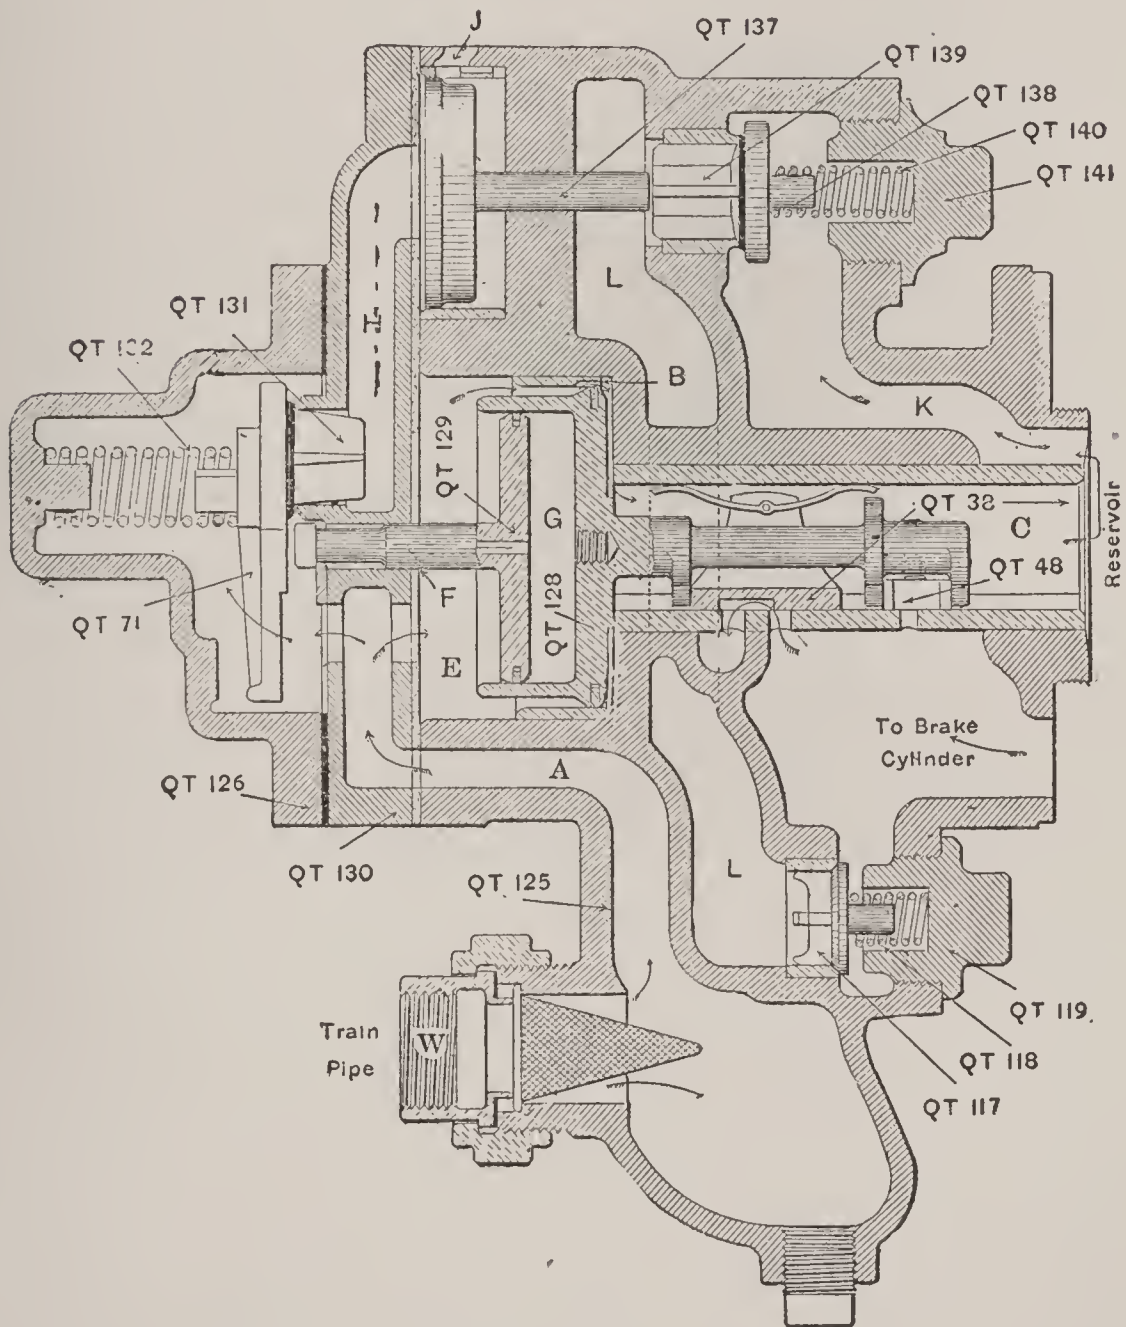

Fig. 28.
The quick action triple valve, as shown respectively in release, service, lap and emergency positions in Figs. 28, 29, 30 and 31, is used on freight cars. Port F of this triple valve is drilled through the stem, the same as it is on the new passenger triple.
**List of Parts.** The parts of the quick action triple valve shown in Figs. 28 to 33 inclusive, are as follows:
**Course of Air.** Fig. 28 shows the course of the air
auxiliary reservoir, causing main piston QT 128, exhaust valve QT 38, and graduating valve QT 48 to return to their normal positions (Fig. 28), closing the service port, allowing the auxiliary reservoir to charge through feed groove B, and at the same time allows the air in the brake cylinder to escape to the atmosphere through the exhaust cavity of exhaust valve QT 38 and the exhaust port in its seat.